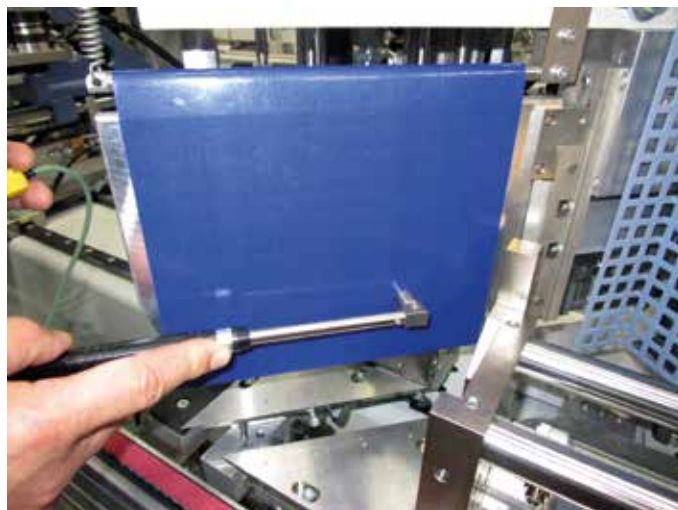

Fig. 10: Measuring the temperature on the welding mirror with a contact sensor
- Measure the temperature on the welding mirror in the welding area regularly with a contact sensor (see Fig. 10). Infrared thermometers must not be used because an air cushion forms between the PTFE film and the welding mirror which distorts the temperature reading.